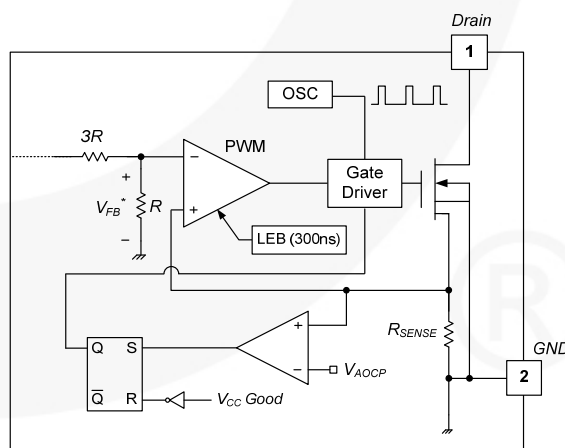

Figure 21. Abnormal Over-Current Protection
4.2 Abnormal Over-Current Protection (AOCP): When the secondary rectifier diodes or the transformer pins are shorted, a steep current with extremely high di/dt can flow through the SenseFET during the minimum turn-on time. Even though the FSL136MRT has overload protection, it is not enough to protect the FSL136MRT in that abnormal case; due to the severe current stress imposed on the SenseFET until OLP is triggered. The internal AOCP circuit is shown in Figure 21. When the gate turn-on signal is applied to the power SenseFET, the AOCP block is enabled and monitors the current through the sensing resistor. The voltage across the resistor is compared with a preset AOCP level. If the sensing resistor voltage is greater than the AOCP level, the set signal is applied to the S-R latch, resulting in the shutdown of the SMPS.